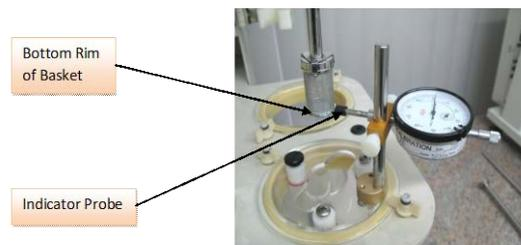

Figure 8
4.6.1.3 With the basket secured to the shaft, lower and position the dissolution drive head so that the dial indicator probe is touching the bottom rim of the basket and adjust the location of the indicator assembly to establish a pre-load of at least one revolution of the indicator dial. Tighten the thumb screws to lock the gage in place. See Figure 8.